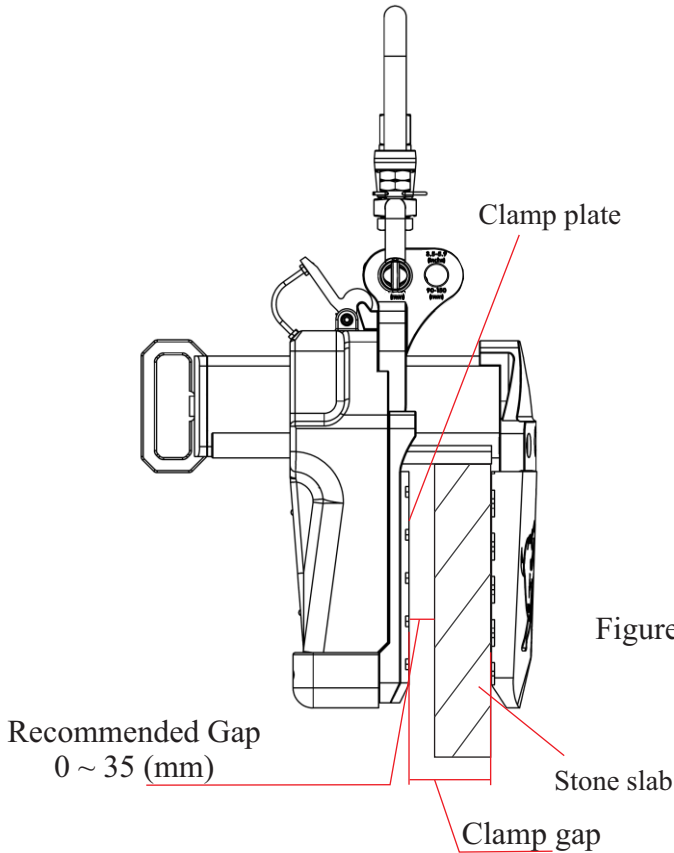

Figure 2.3
*The movable clamping plate can be moved within a safe limited distance from 0mm to 35mm, so that the Recommended Gap shall not be more than 35mm (Figure 2.3).*